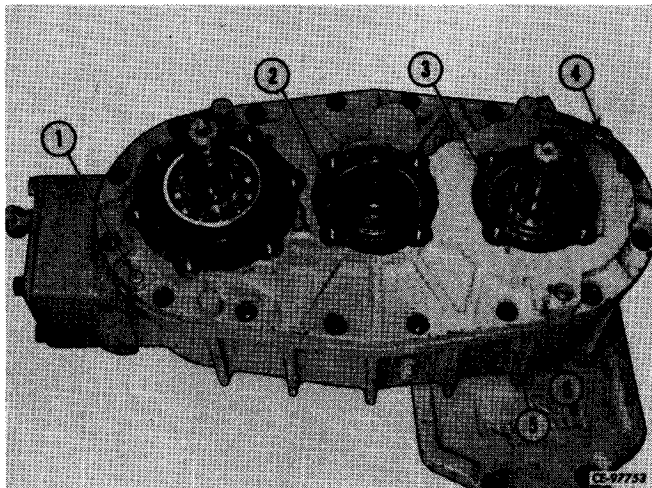

Figure 4-86
Using a suitable punch, drive up on pins (1, 4, Fig. 4-86). This will separate the cover (6) from case (5).
Install new gasket and cover (6, 7, Fig. 4-86). Drive pins (1, 4) positioning cover on case. Install and tighten cap screws and nuts securing cover to case.